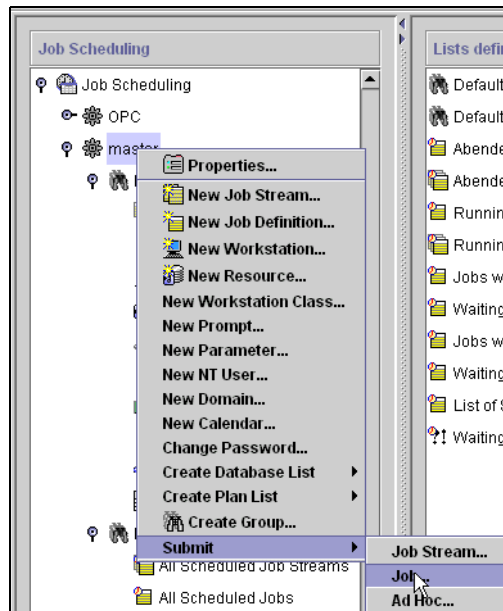
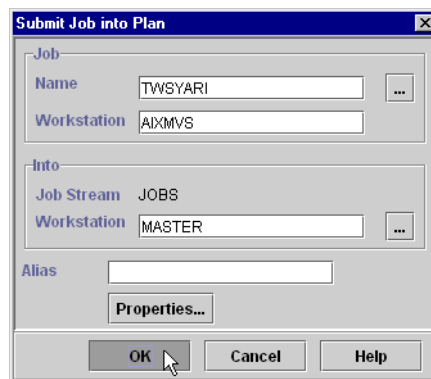

Figure 147. Submit job from TWS
Figure 148. Select TWS job TWSYARI
7. Submit the TWS job, TWSYARI, from TWS as shown in Figure 147 and Figure 148.